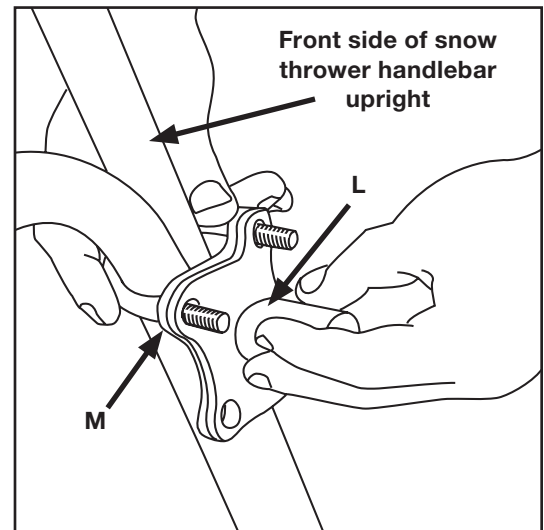

Fig. 1
### INSTALL THE MOUNTING POST CLAMPS (FIGS. 1 AND 2)
1. Insert two U-bolts [P] around the Snow Thrower frame and through the mounting post clamp spacer [M1, M2] and the mounting post clamp [L1, L2] as shown. (Fig. 1)